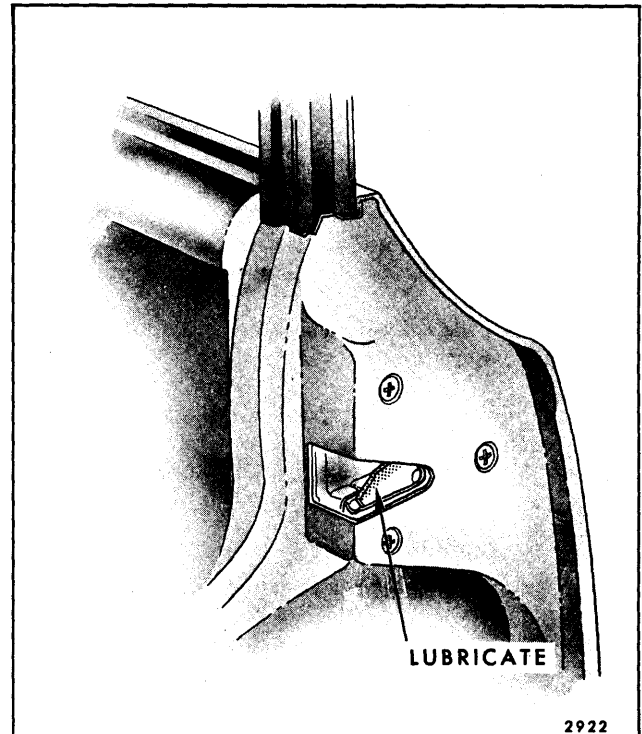

Fig. 2-6—Door Lock Fork Bolt Lubrication
2. Apply a thin coat of grease stick lubricant (Dorease or equivalent) to the areas indicated (Fig. 2-6).